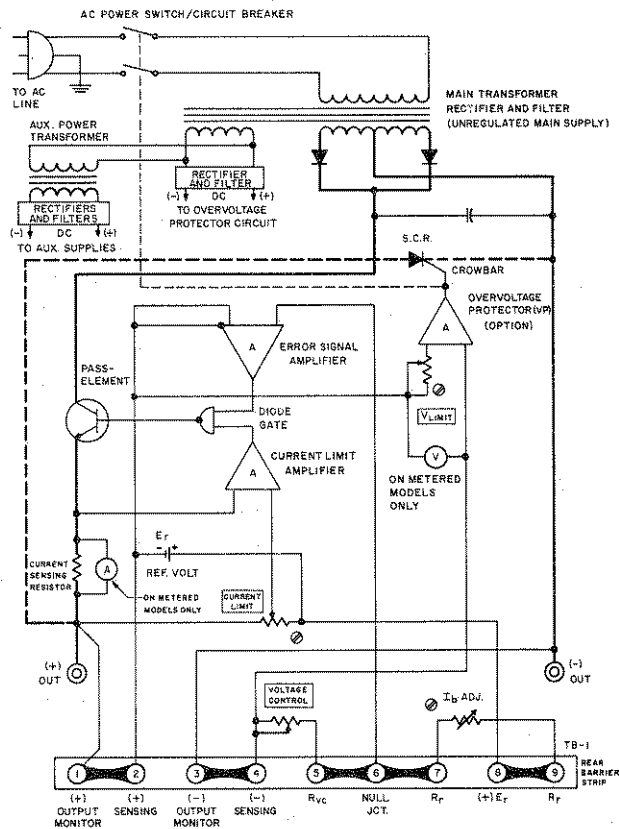

FIG. 4-1 SIMPLIFIED DIAGRAM, JOE HALF-RACK POWER SUPPLY
(References in CAPITAL LETTERS refer to the nomenclature used in FIG. 4-1)
### 4-1 SIMPLIFIED DIAGRAM DISCUSSION (Refer to FIG. 4-1)
- 1) Check rear barrier-strip jumper connection for correct placement and tight seat (Refer to FIG. 4-1).
- 3) Check reference voltage from terminal (2) to (8) on the rear barrier strip. Correct reference potential is 6.2V nominal.